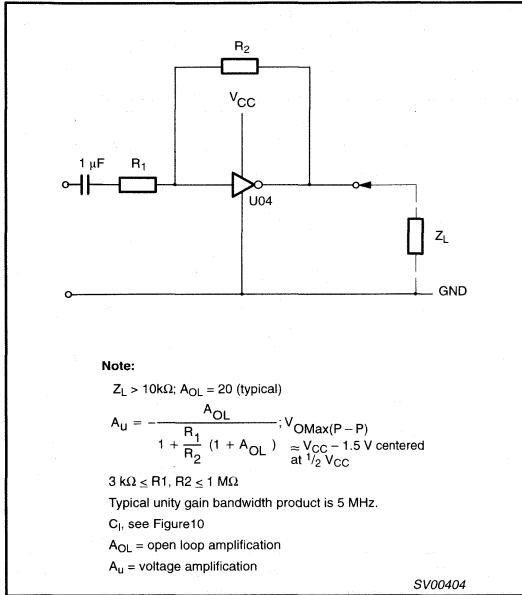

Figure 4. LVU04 used as a linear amplifier.
- Linear amplifier (see Figure 4)
**Note to Figure 4**